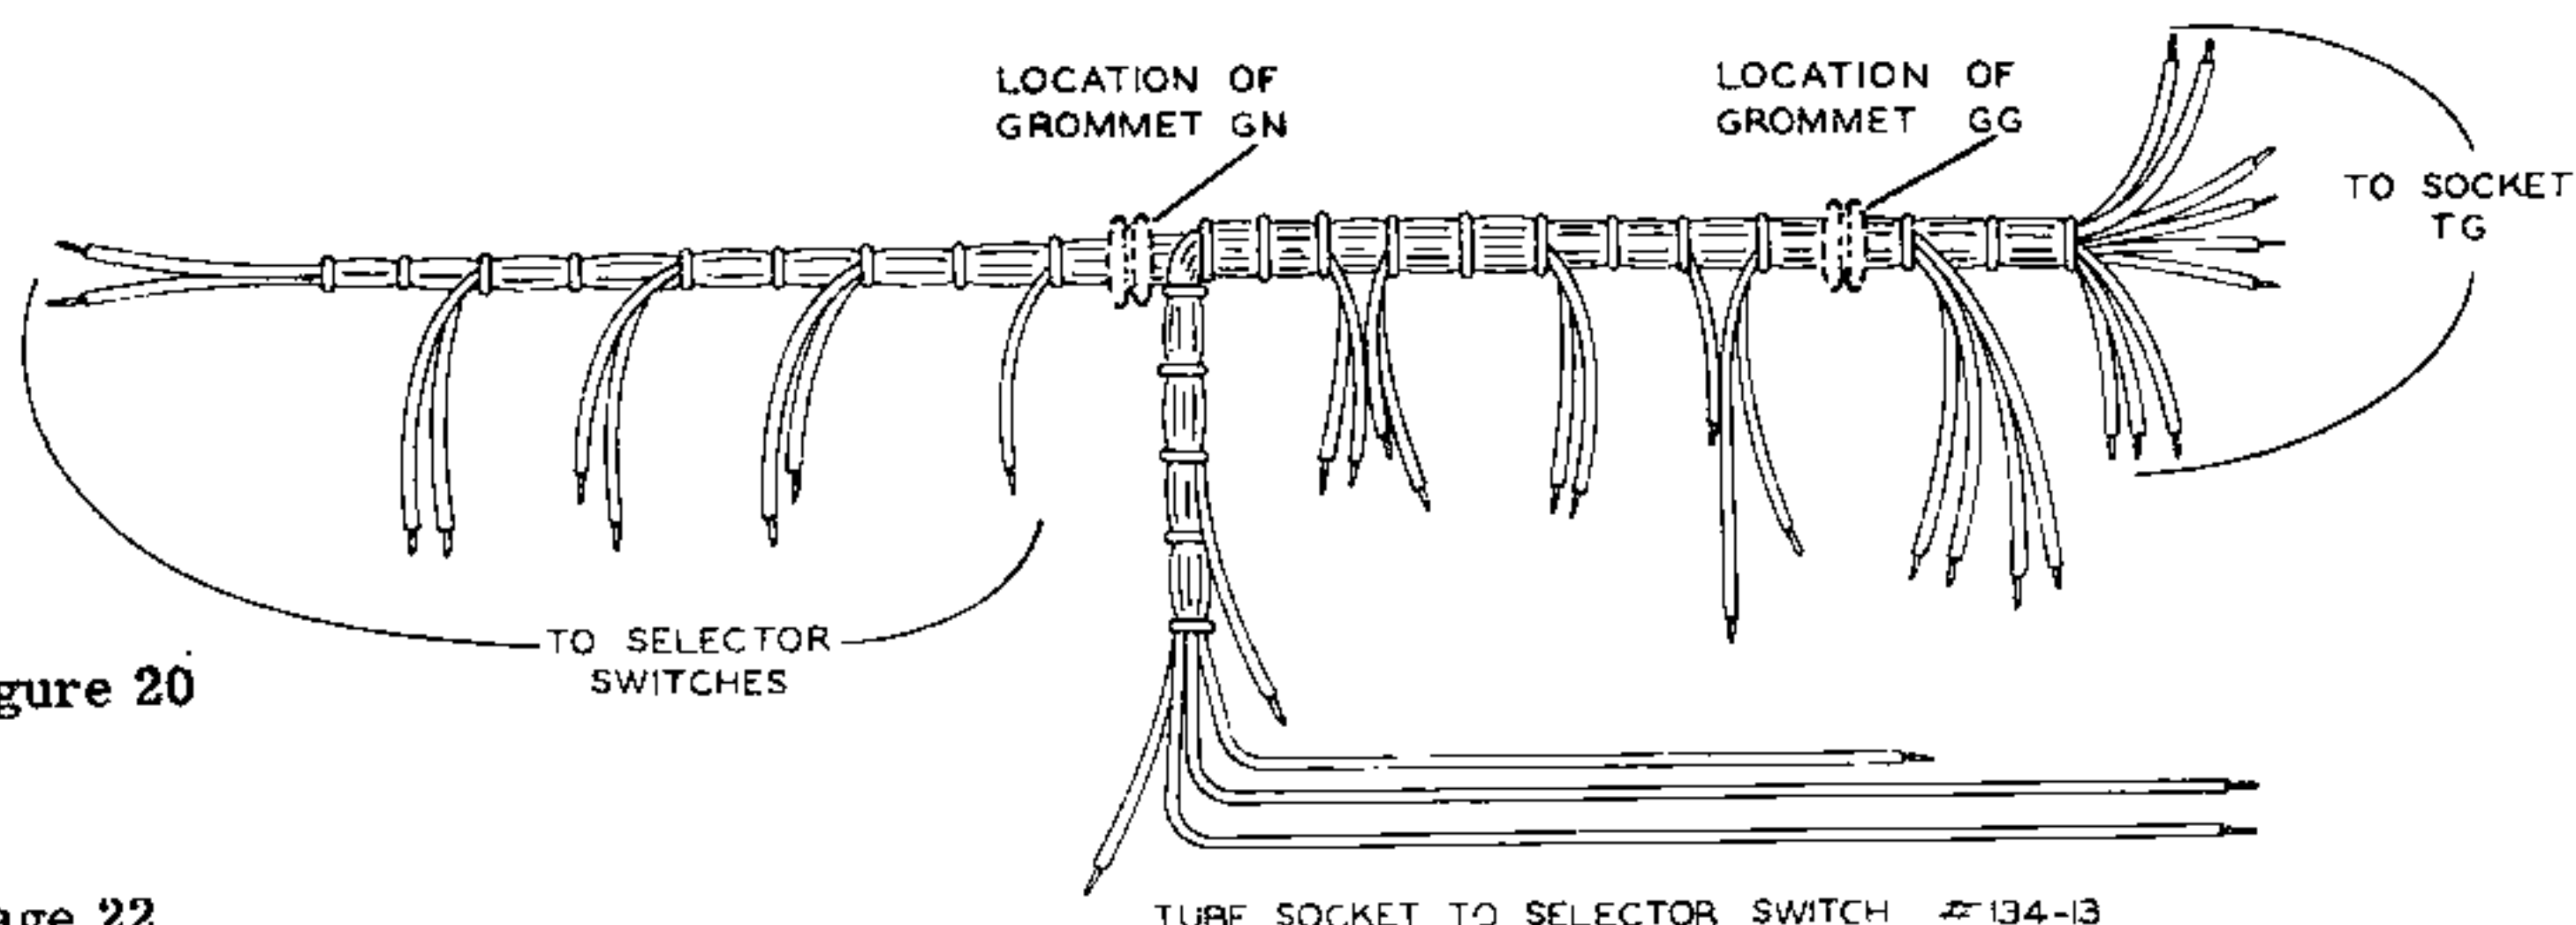

Figure 20
- ( ) Identify the SELECTOR switch to tube socket cable harness (#134-13) and study carefully its position relative to the panel by reference to Figures 20 and 21. Identify the tube socket end of the cable by reference to Figure 20.